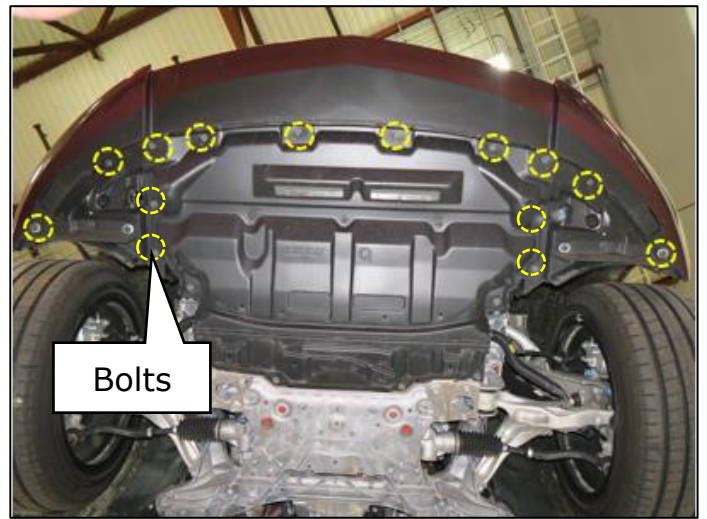

Figure 11
9. Remove the (14) bolts that secure the lower splash shield to the front bumper. (Figure 11)